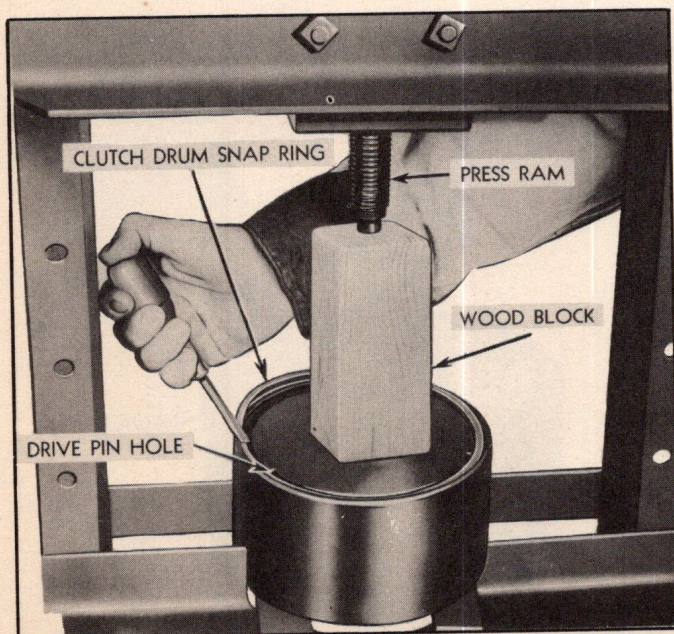

Fig. 249—Installing Clutch Drum Snap Ring
10. Place rear unit on a press and press the clutch drum until it is below the snap ring groove in the drum. Install clutch drum snap ring, positioning gap of ring between two drive pin holes (Fig. 249).